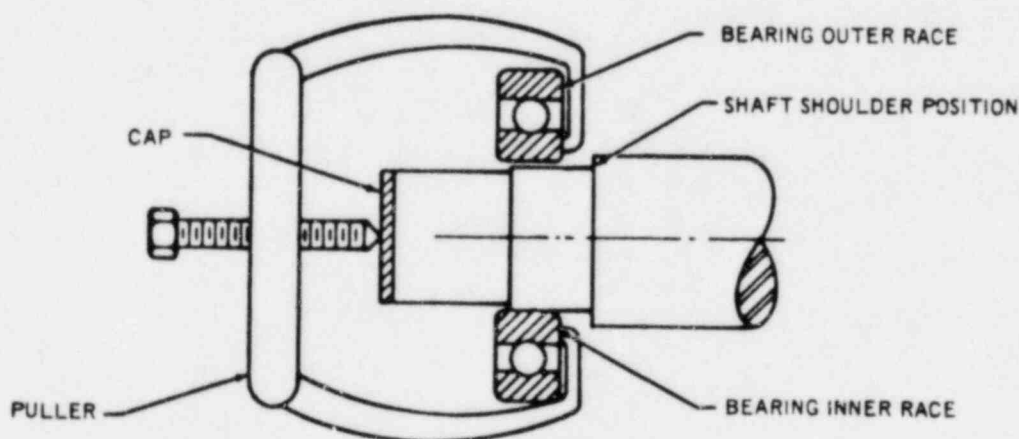

FIG. 5-1 REMOVING BEARING
- (1) Remove bolts holding bearing housings to yoke. If motor has stationary inner end caps, remove bolts holding end caps to housings.
- (2) Remove end housings.
- (3) Remove snap ring in front of bearing.
- (4) Use bearing puller and exert force only on inner race to remove bearing from shaft.
**NOTE:** Protect the shaft end with a cap (Fig. 5-1). If bearing is to be reused make certain the puller applies pressure against the inner bearing race only. If puller will not hook the bearing inner race, fabricate a split bushing and install it between the bearing and the puller hooks.
- (5) Check shaft diameter for proper size with micrometer. Clean or replace inner bearing cap and slide cap onto shaft.
- (6) Heat the new bearing in an oven (200° F.). While it is hot, slide the bearing onto shaft — make cer-